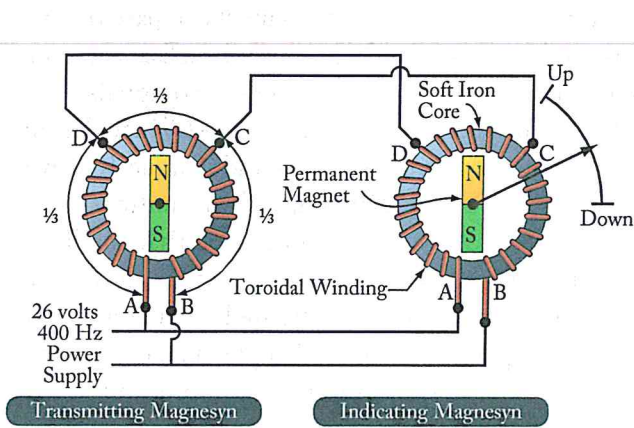

Figure 3-9. A magnasyn synchro remote-indicating system uses AC. It has permanent magnet rotors in the transmitter and indicator.
Aircraft with Alternating Current (AC) electrical power systems make use of autosyn or magnasyn synchro remote indicating systems. Both operate in a similar way to the DC selsyn system, except that AC power is used. Thus, they make use of electric induction, rather than resistance current flows defined by the rotor brushes. Magnasyn systems use permanent magnet rotors, such as those found in the DC selsyn system. Usually, the transmitter magnet is larger than the indicator magnet, but the electromagnetic response of the indicator rotor magnet and pointer remains the same. It aligns with the magnetic field set up by the coils, adopting the same angle of deflection as the transmitter rotor. *[Figure 3-9]* Again, the flight control surface, or other unit whose position is being monitored, is attached to the transmitter rotor.